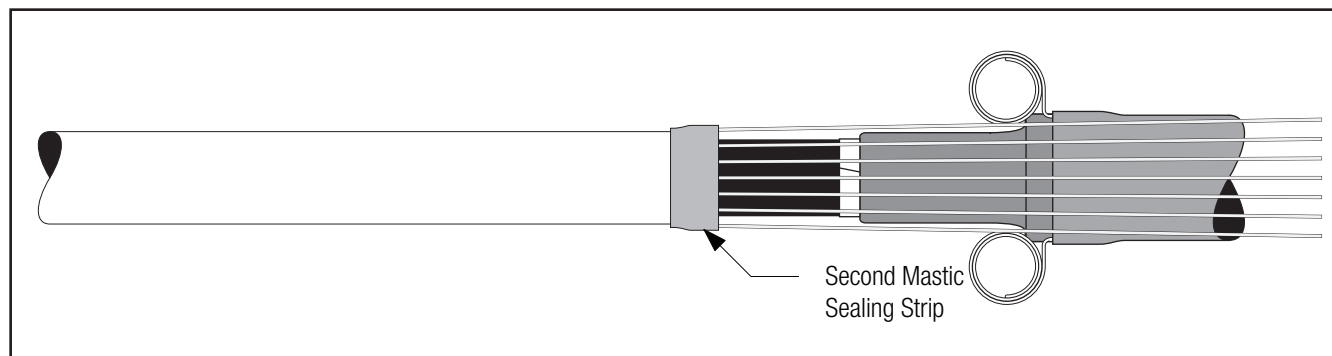

Figure 14
5.2 Fold neutral wires over splice body and wrap another mastic sealing strip over the cable jacket end and the first mastic sealing strip (*Figure 14*).